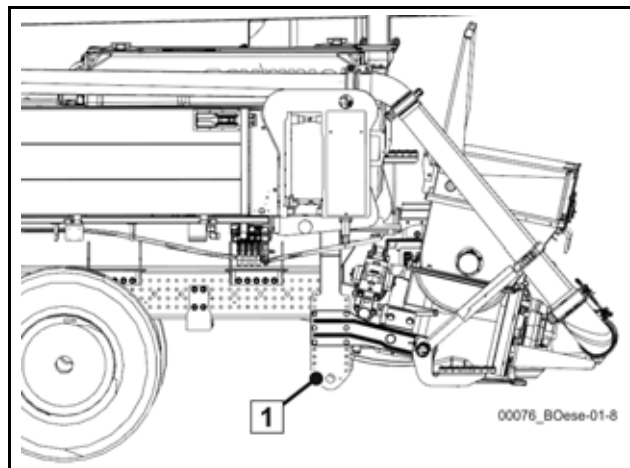

Fig. 206 (1) Towing lugs
2. SCHWING towing lugs on tail end of vehicle (1) (**Fig. 206**)